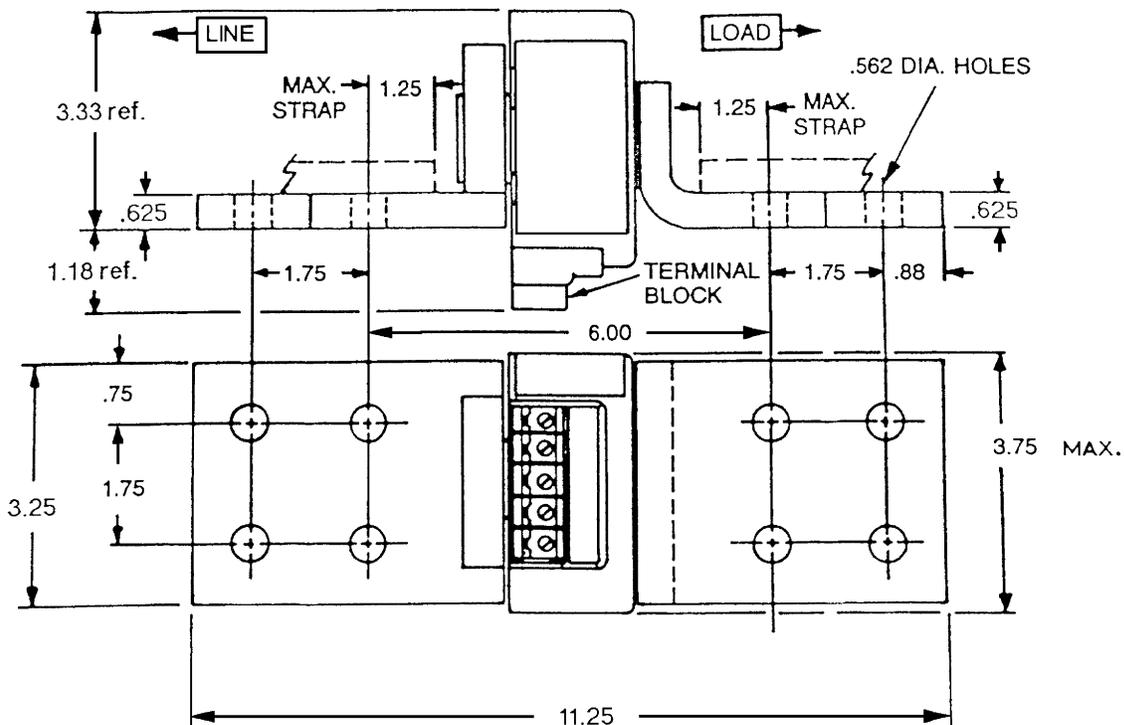

Figure 18. Neutral sensor outline for AK-1-50.
1. Mount the neutral sensor on the outgoing neutral lead, normally in the bus or cable compartment in the equipment. Figure 18 shows the outline of the neutral sensor.